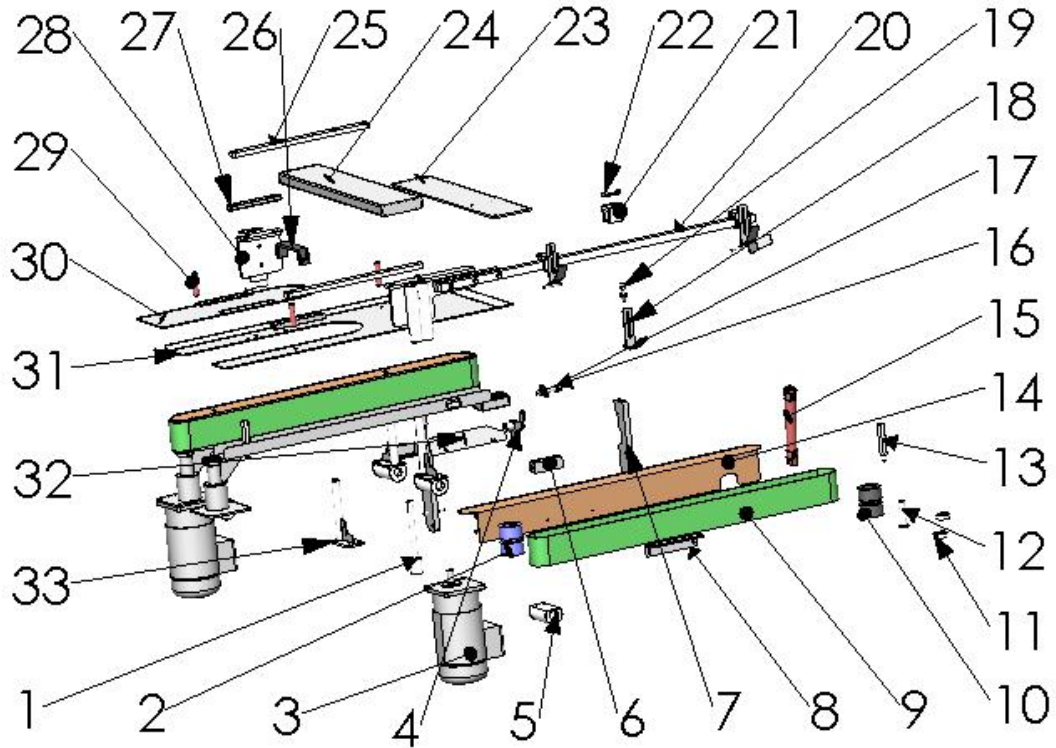

Figure 29
5.5 Adjusting and conveying mechanism, as shown in Figure 29 and